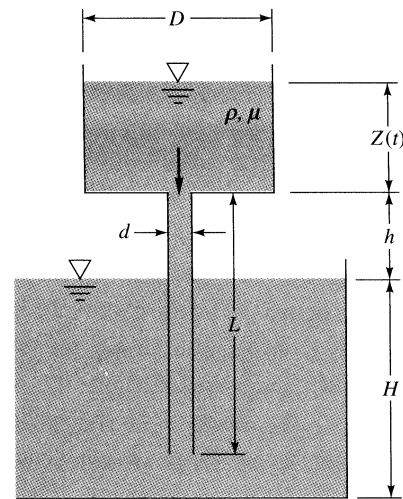

Fig. P6.27
**6.27** Let us attack Prob. 6.25 in symbolic fashion, using Fig. P6.27. All parameters are constant except the upper tank depth  $Z(t)$ . Find an expression for the flow rate  $Q(t)$  as a function of  $Z(t)$ . Set up a differential equation, and solve for the time  $t_0$  to drain the upper tank completely. Assume quasi-steady laminar flow.